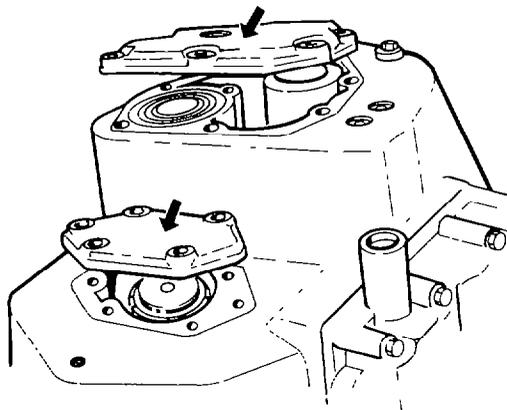

Figure 33 End Covers and Bearing Caps
- (6) Remove the securing bolts from inside the epicyclic gear casing.
- (7) Rotate the transmission assembly through 180° until the main gearbox is uppermost; remove the bolts securing the end covers to the main gearbox; remove the end covers; remove the bolts securing the bearing caps in position, and remove the bearing caps (see Fig 33); remove and discard the oil seals.